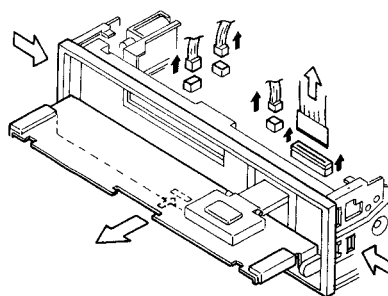

Fig. 6
2. Disconnect the four connectors. (Fig. 6)
3. Press the tabs at three locations indicated by arrows, and then pull out the holder assy. (Fig. 6)